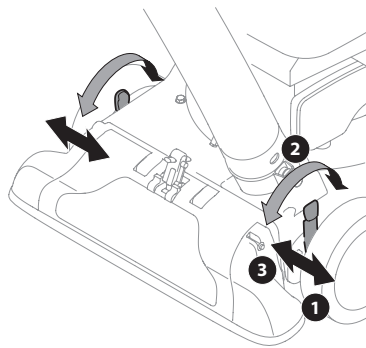

Figure 7
1. Depress nozzle height adjustment lever towards wheel. See Figure 7.
3. Release lever towards deck. See Figure 7.